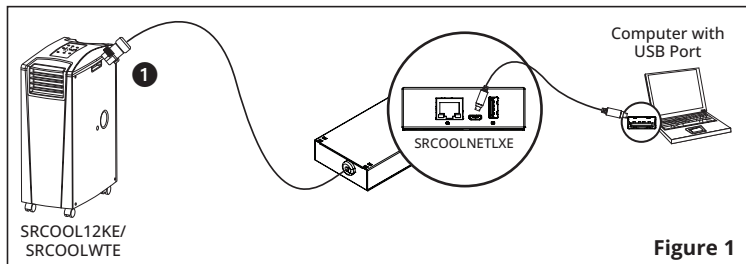

Figure 1
- 2-1 Connect the SRCOOLNETLXE to the SRCOOL12KE or SRCOOL12KWTE Spot Coolers:** Using the dedicated connector **1**, connect the SRCOOLNETLXE to the communication port on the side of the spot cooler (see Figure 1 in section **3-3**).